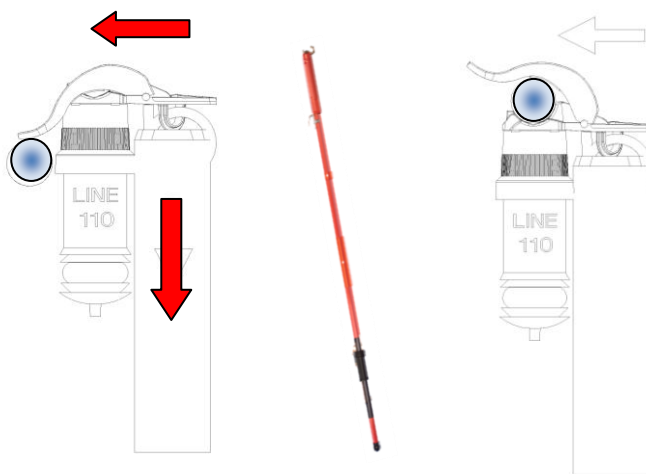

Figure 15: Mounting & Grip-All_clamp hot stick
2. Pull the stick downwards and against the line, until the line is in correct position, see fig 15. Release the grip-all stick.
1. Fix the claw in the “eye” on the horizontal part of the line-clamp, see fig 15.